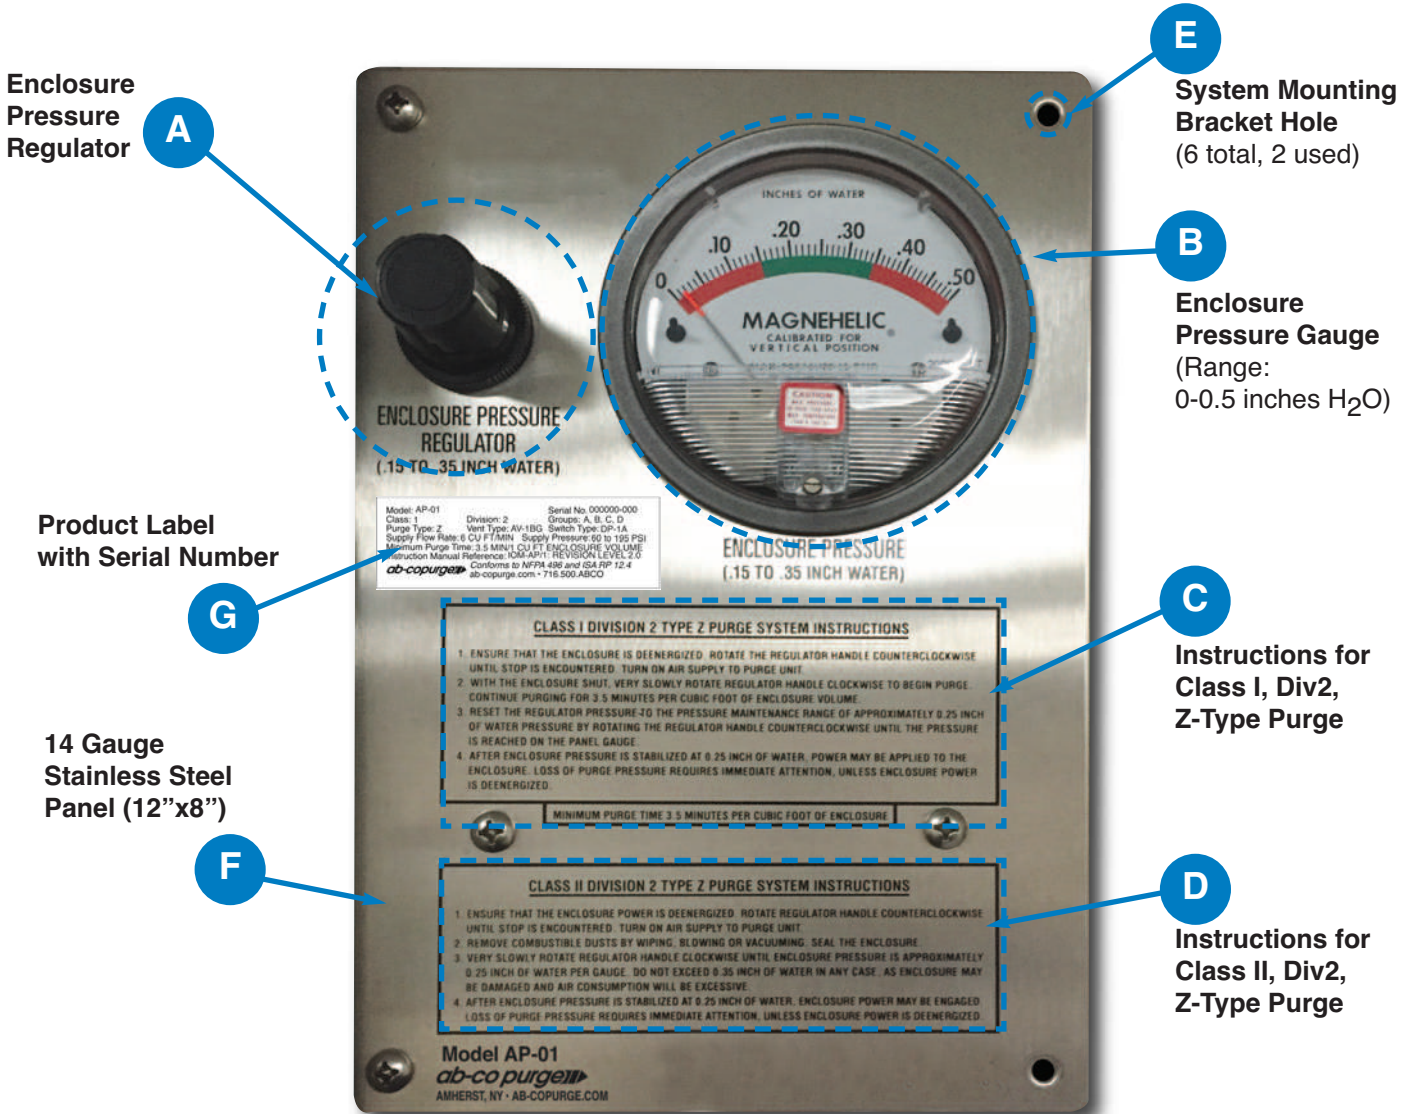
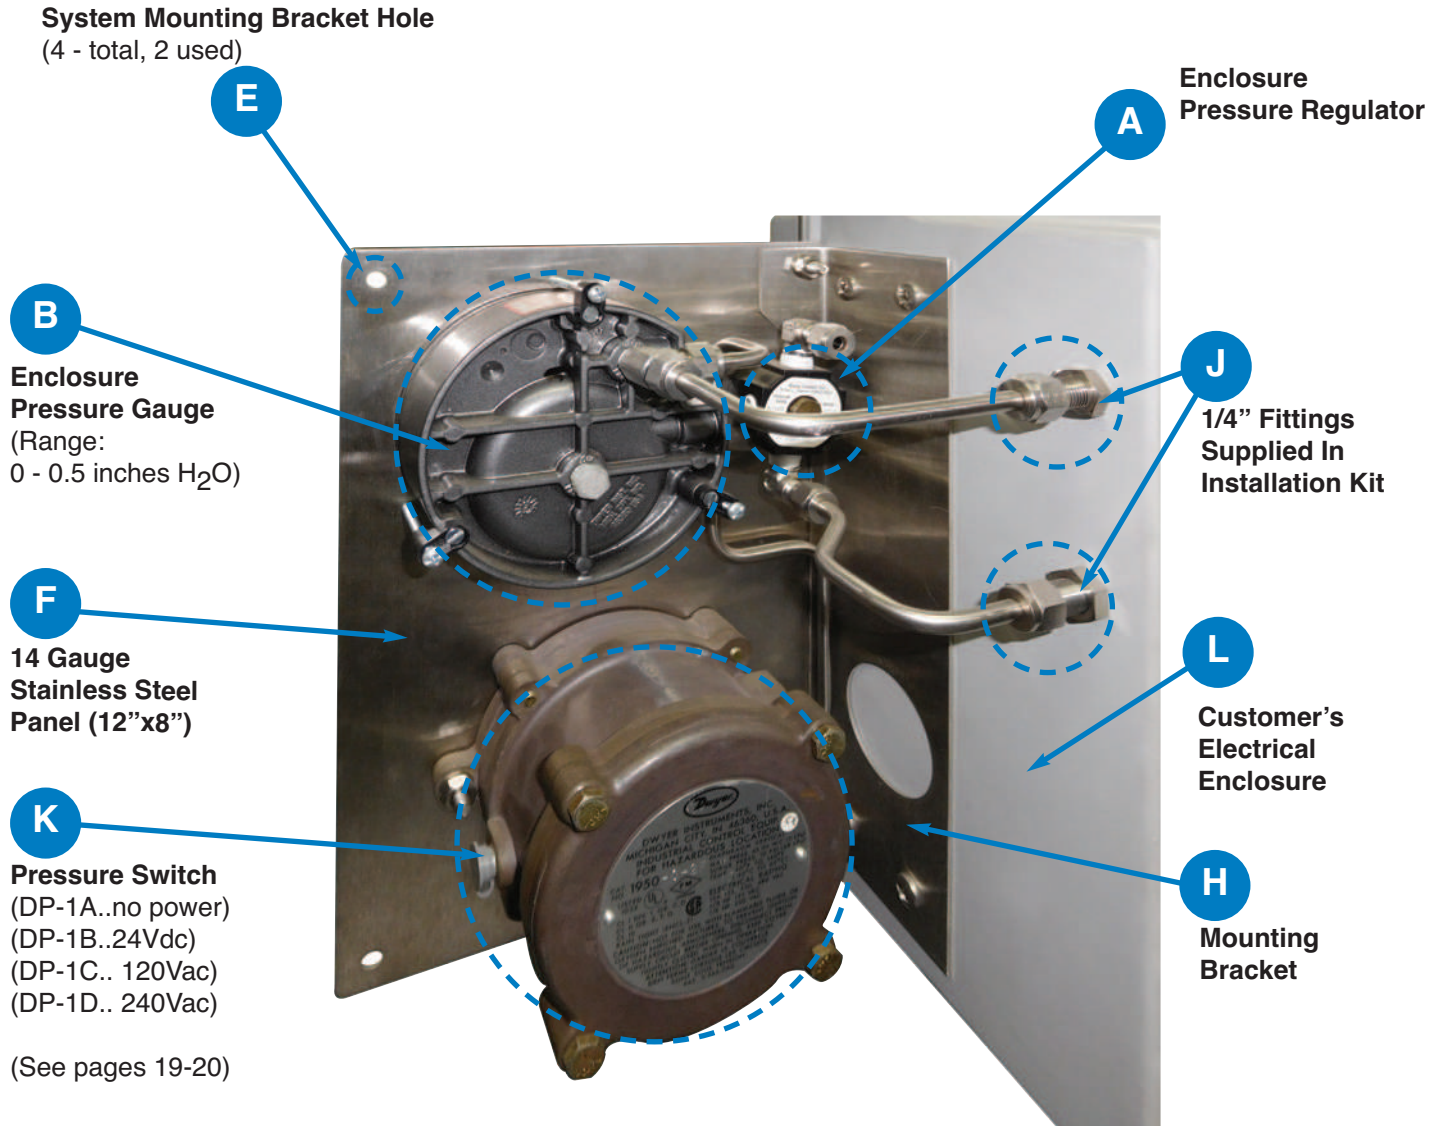
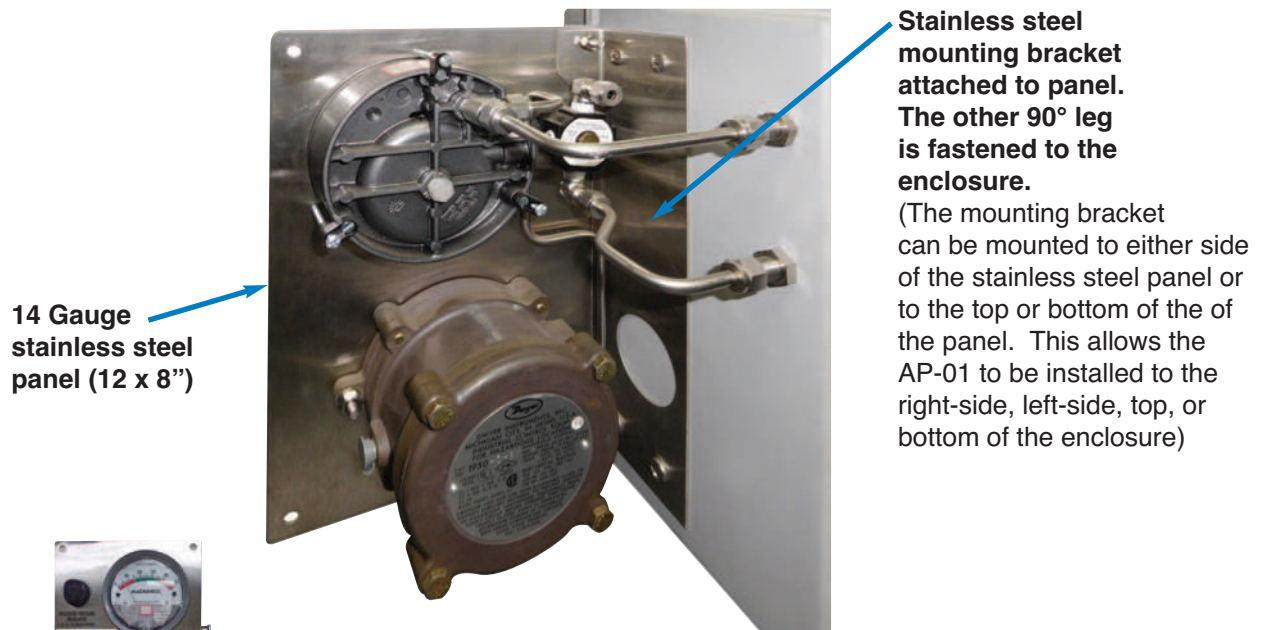

Figure F-4
Figure R-1
Figure R-4
The following pages of the manual will refer to each of these components by the name and number as designated on this figure (Figure F-4).
The following pages of the manual will refer to each of these components by the name and number as designated on this figure (Figure R-1).
This is essential in order to allow the operator to visually confirm the functionality of the purge system. If the visual indicator (enclosure pressure gauge -- “E” in Figure F-4) is not readily visible during normal operating conditions, the optional pressure switch (“K” in Figure R-1) is required to provide remote annunciation.
B. With inlet and outlet fitting installed in the enclosure, mount the AP-01 system to the enclosure using the mounting hardware supplied with the system's installation kit. Even though the mounting bracket is already fastened to the 12"x 8" stainless steel panel ("F" in Figure F-4 and Figure R-1), the mounting bracket can be installed on either side of the panel or the top or bottom of the panel. (See Figure R-4 below.)